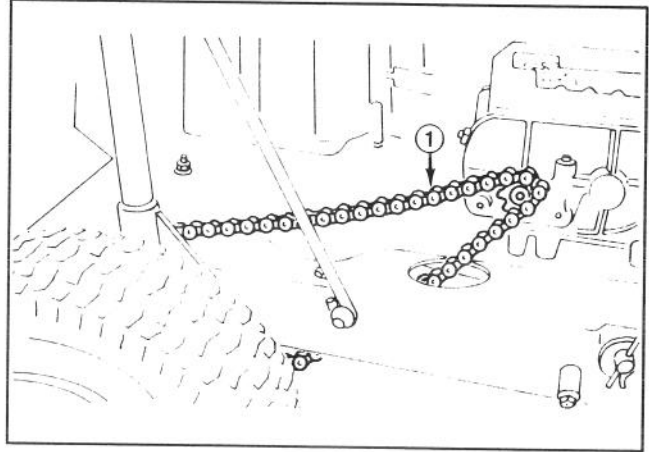
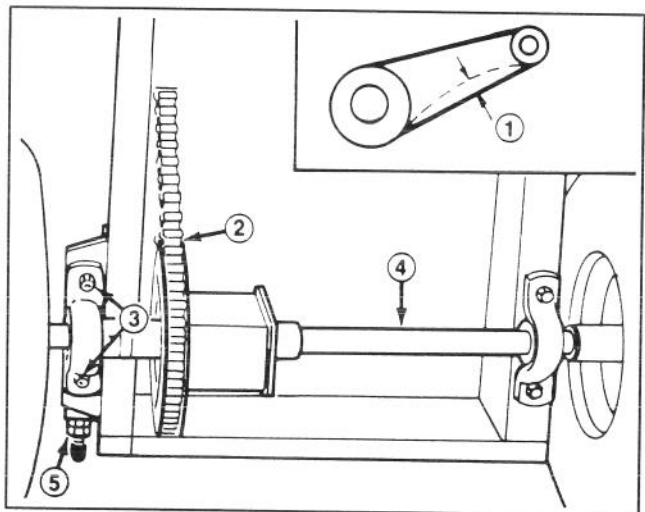

Figure 22
Figure 23
2. Check the deflection of the drive chain by lifting up and pressing down on the chain with moderate pressure at mid-span (Fig. 22). There should be 1/8 of an inch (3 mm) total deflection (Fig. 23). If deflection is not as specified, an adjustment is required – steps 2–13.
7. Loosen the four flange nuts securing the pillow blocks w/differential axle to the rider frame (Fig. 23).
8. Loosen the rear jam nut on the chain tensioner (Fig. 23).
11. Since the differential axle must be parallel to the rear of the chassis, measure the distance from the center of the pillow blocks to the rear of the chassis (Fig. 23). The difference between the two measurements must not exceed 1/8 in. (3 mm). If it does, the differential axle is not parallel with the chassis; therefore, it must be readjusted.